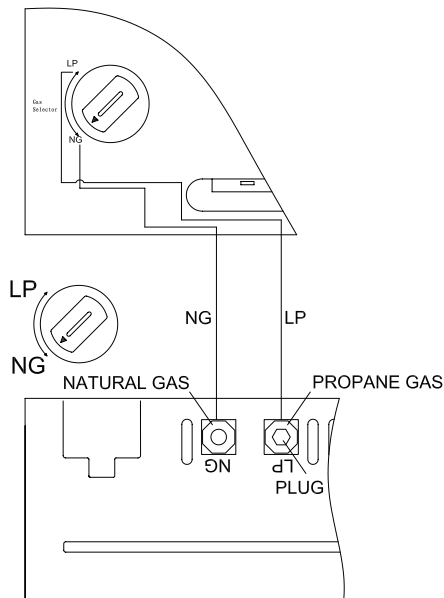

Figure 15
2. For NATURAL GAS, press knob using a flat screwdriver with a blade with thickness of a quarter and turn knob counterclockwise  until the knob locks into the NG position (see Figure 15). Selection valve must be locked in the NG position. Do not operate heater between locked positions!